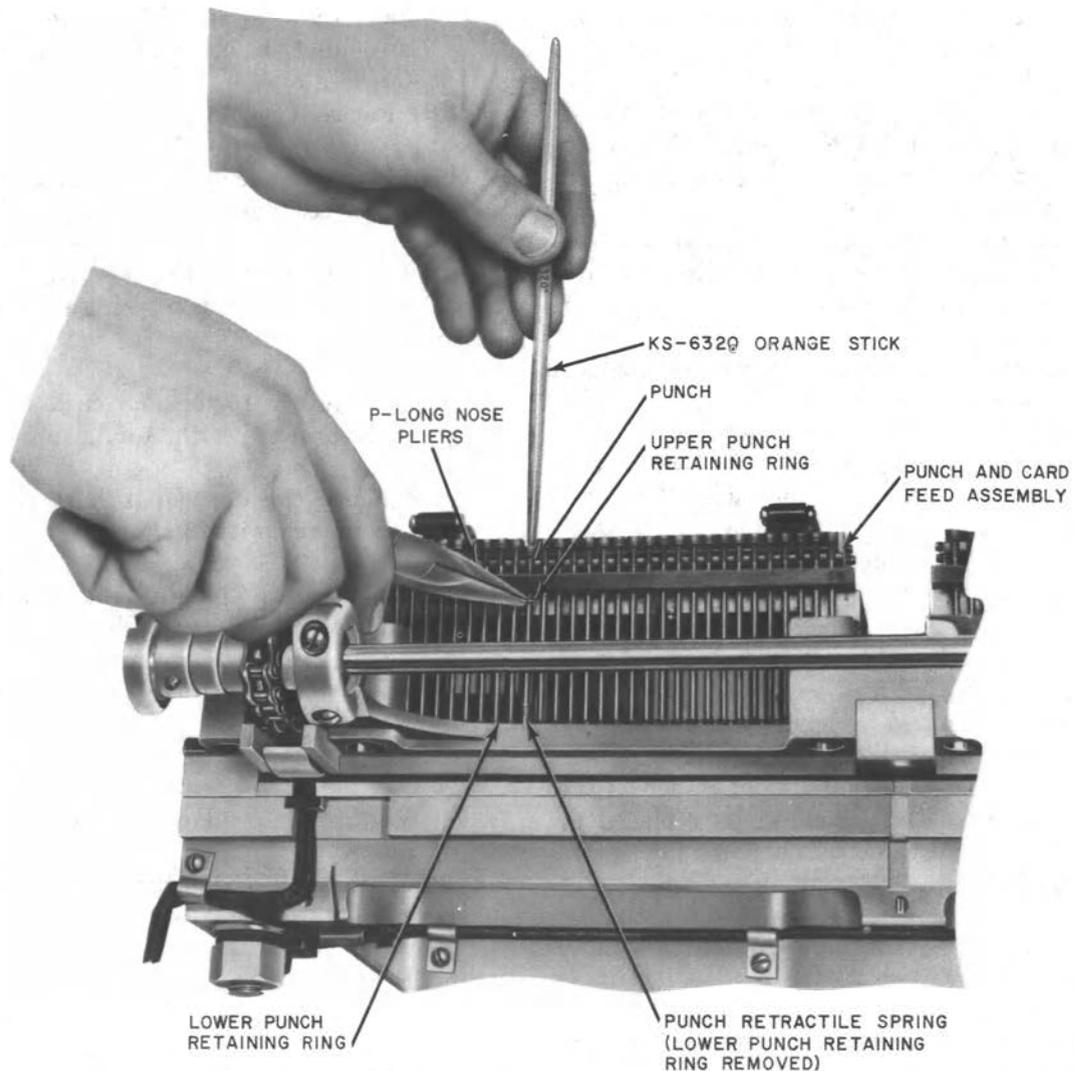

Fig. 44—Punch and Card Feed Assembly (Removing Upper Punch Retaining Ring)
3.47 Punch Retaining Ring: To replace the upper and/or lower retaining ring(s) (Fig. 44), proceed as follows.
Note: Each punch is equipped with two retaining rings as shown in Fig. 44. If both retaining rings are to be replaced, replace the lower ring first.
3.49 Punch Retractable Spring: To replace the punch retractile spring (Fig. 44), proceed as follows.